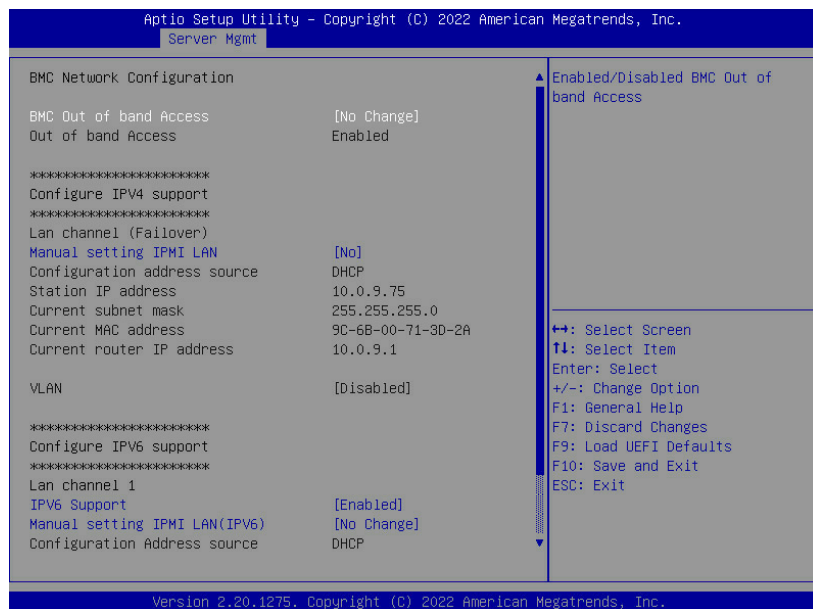

Figure 30 : Setting BMC IP Address
- 3 **Server Mgmt -> Manual setting IPMI LAN -> Yes** (Figure 30)